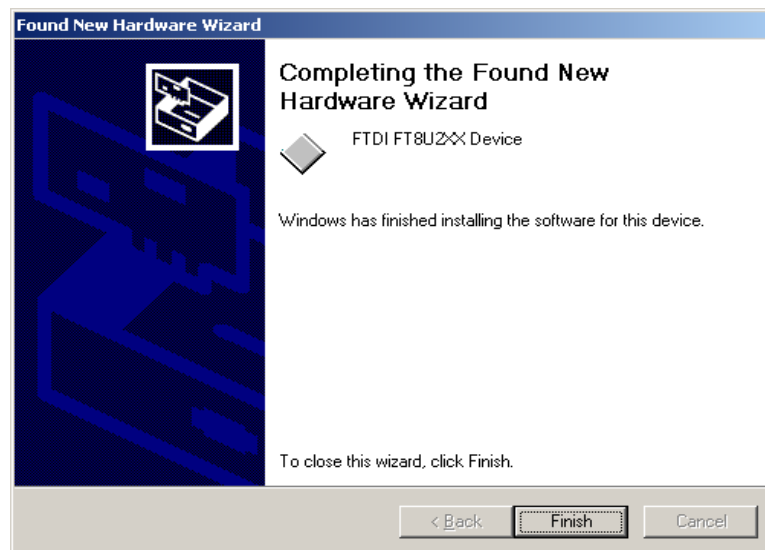

Figure 10
4. Click **Finish** to complete the hardware installation (Figure 10).